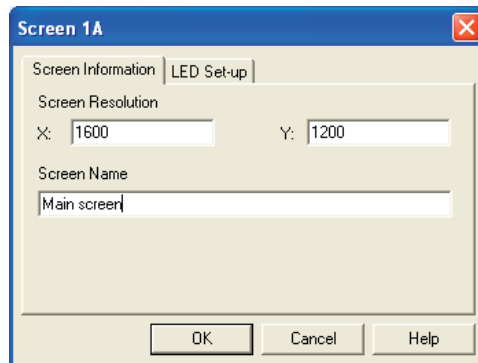

Figure 4-3. Defining the resolution of a screen and (optionally) a name
- Double-click on each screen representation to set the screen resolution and, optionally, add a screen name and/or configure an LED indicator (if used). See Figure 4-3.